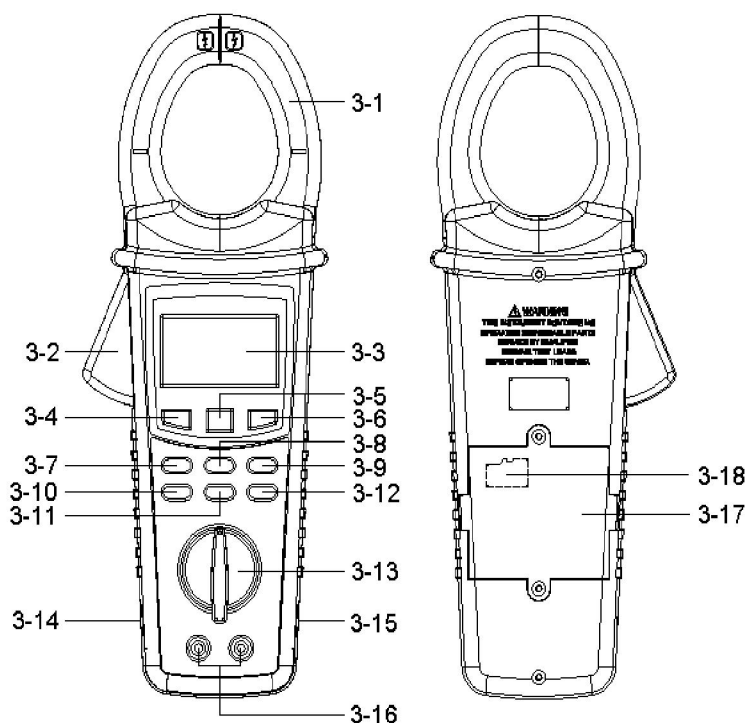

Fig.1
- 1) Function Rotary switch(3-13, Fig.1): Select the measurement function rotary switch.
- 2) FUNC KEY (3-4, Fig.1): Press the key to select the screen display.
- 3) HOLD KEY (3-5, Fig.1): Press the key to freeze the display reading.
- 4) REC KEY (3-6, Fig.1): The data record key for Sd Card.
- 5) SETUP(ENTER) KEY (3-7, Fig.1): Press the key to setup the function before measuring or select function input determine.
- 6) EXIT( ✖ ) KEY (3-9, Fig.1): Press the key to exit setting screen or measurement screen LCD backlight key .
- 7) ▲ KEY (3-8, Fig.1): Press the key to move the cursor up in setting screen.
- 8) ▼ KEY (3-11, Fig.1): Press the key to move the cursor down in setting screen.
- 9) ◀ KEY (3-10, Fig.1): Press the key to move the cursor left in setting screen or harmonic analysis left Key.
- 10) ▶ KEY (3-12, Fig.1): Press the key to move the cursor right in setting screen or harmonic analysis right Key.